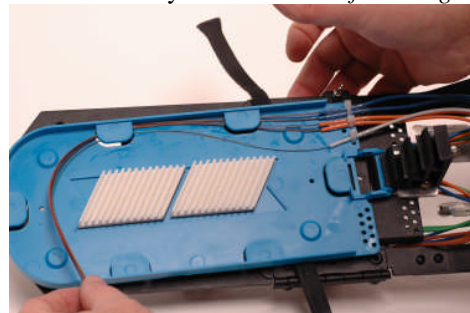

Figure 25
9.1.6 Splice all optical fibers following standard procedures. Rout all fibers within splice trays as referenced in the tray instructions. Refer to Figure 25